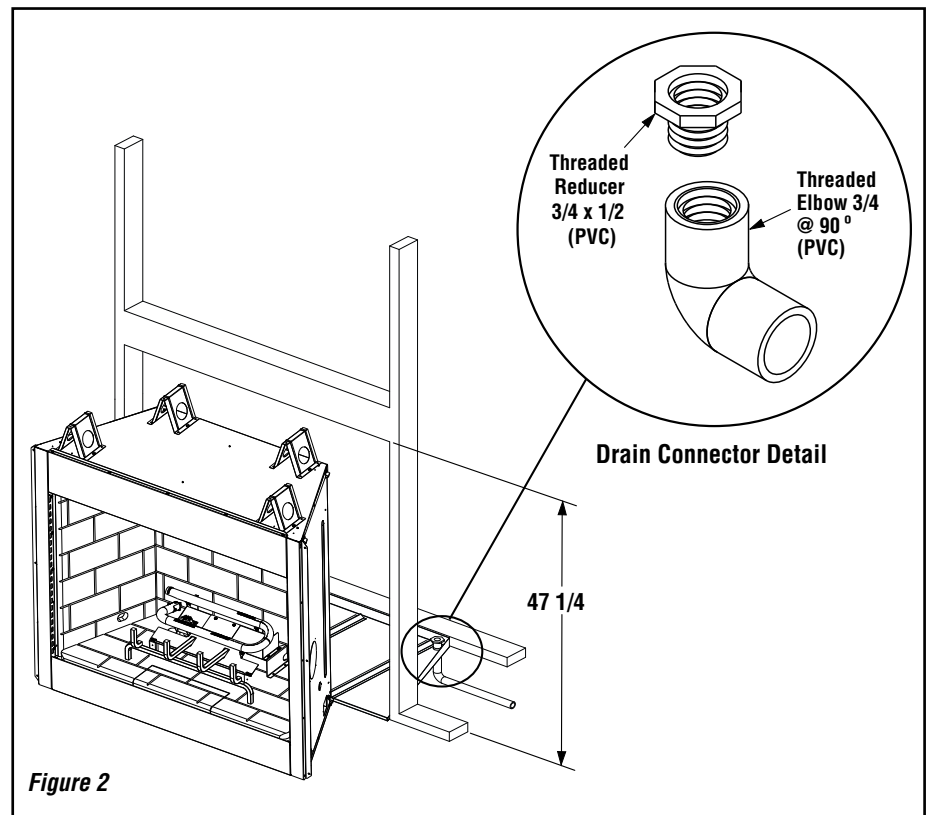

Figure 2
2. Waterproof the fireplace or install the optional drip pan (see *Waterproofing The Fireplace and Figure 2 on Page 5*).
Step 1. Seal all joints, gaps and corners around the bottom of the drain pan before positioning the fireplace on its location (Figure 2).